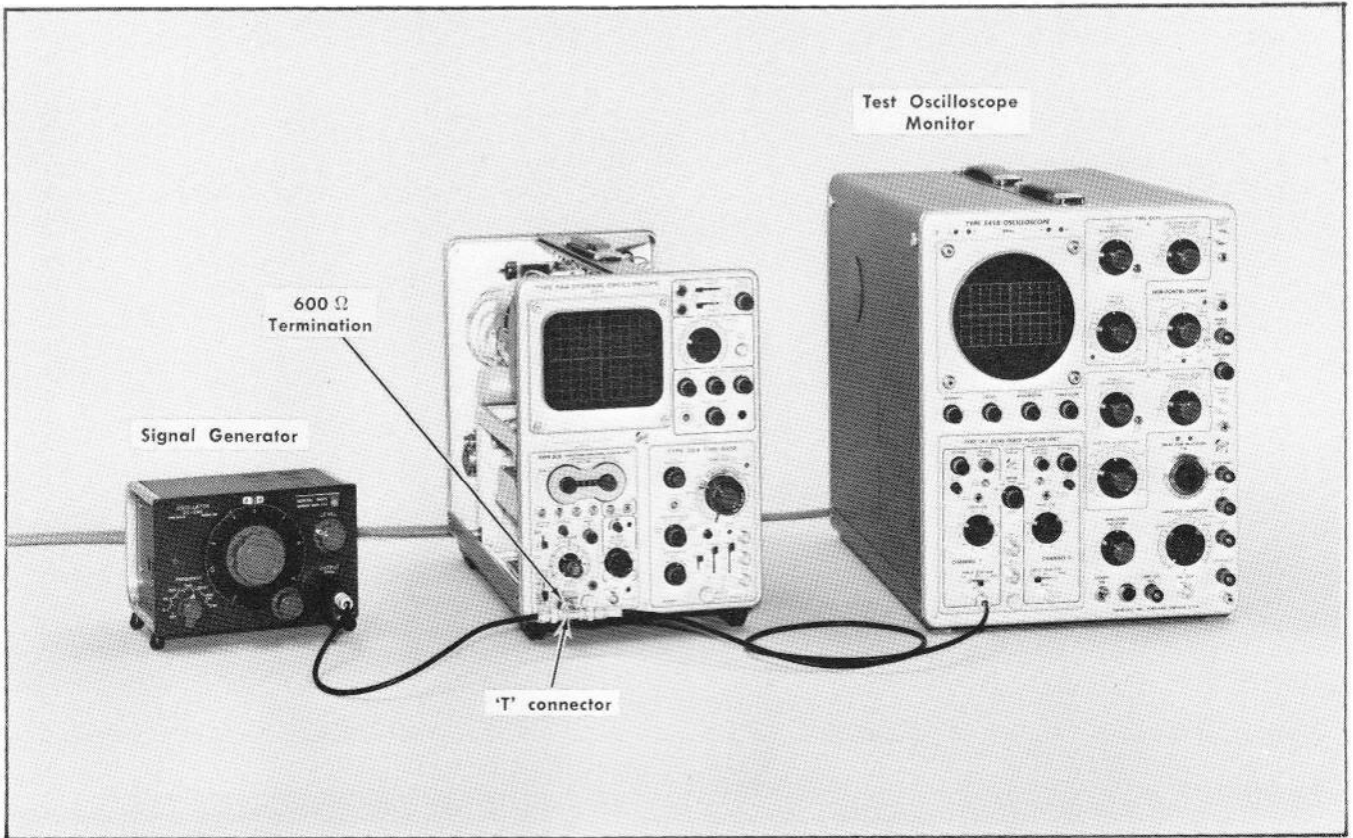

Fig. 6-24. Equipment setup to check display flatness.
a. Equipment setup is shown in Fig. 6-24.